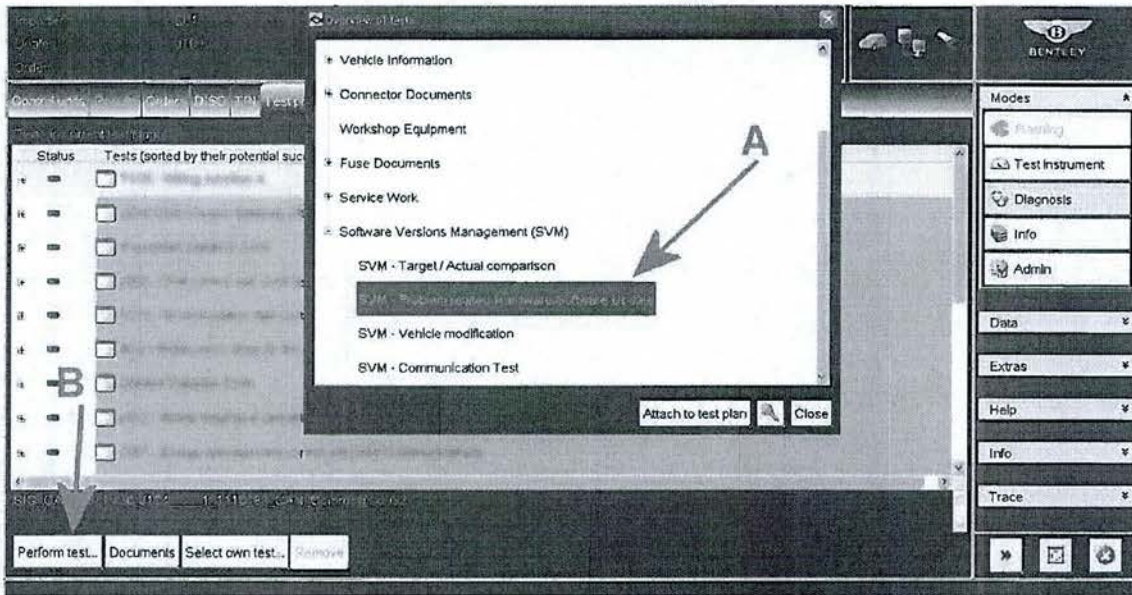

Figure 7
- Referring to Figure 7 - Ensure the Problem related Hardware/Software update is visible and highlighted as shown at Point A